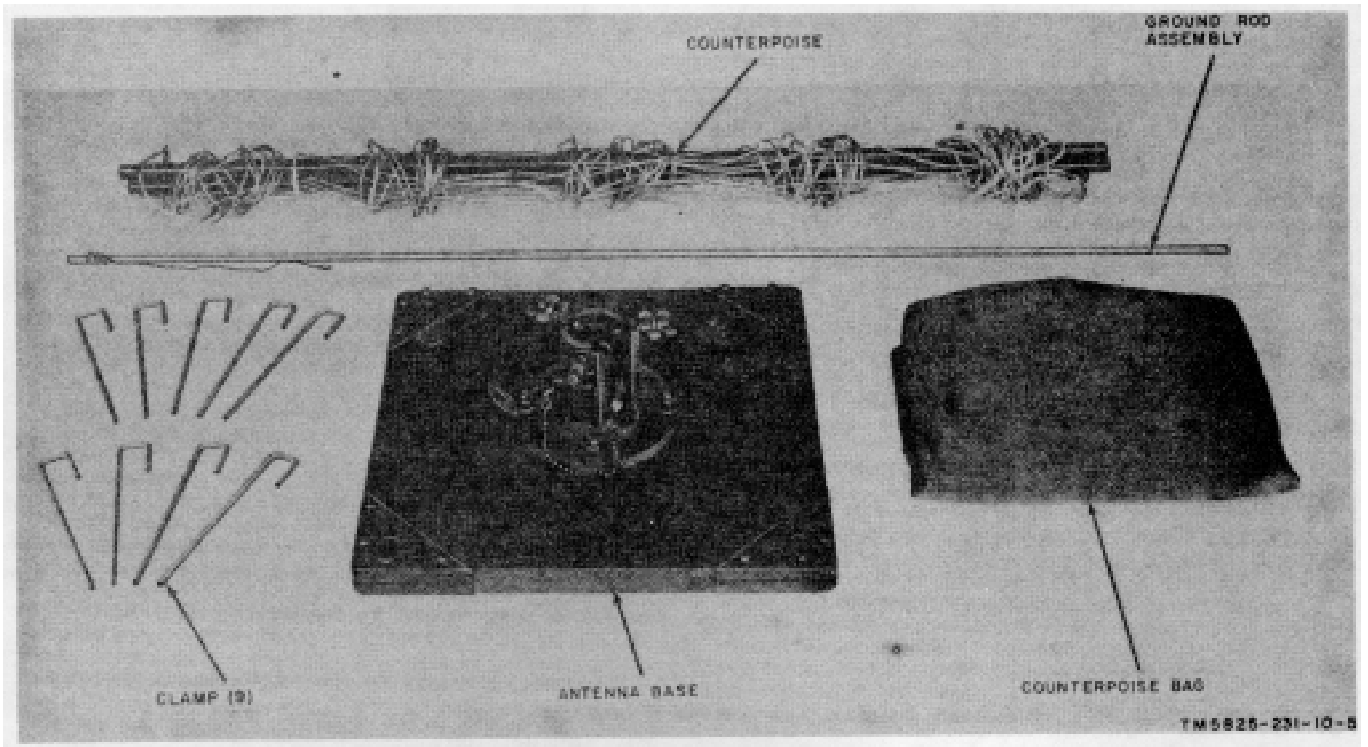

Figure 1-5. Base, Antenna MT-865/GR and Counterpoise, Antenna MX-4487/G.
c. *Base, Antenna MT-865/GR* (fig 1-5) The antenna base is a 2-foot square wooden platform with a socket for the mast ball. A cutaway portion of the socket allows the mast to be lowered to a horizontal position. Also, three screws on the socket are used to adjust the mast vertically. Two pins are provided, one to lock the ball in the socket, and the other to keep the mast vertical. There are four holes in the platform through which oval-head steel stakes are driven to anchor the base to the ground One guy plate for attaching the adjacent antenna guy is secured to the base.
*e. Counterpoise, Antenna MX-4487/G* (fig. 1-5) The counterpoise assures uniform ground conductivity for all 25 antennas of the df antenna and the monitor antenna. The system is composed of 26 individual sections, one for each antenna of the system. Each counterpoise is approximately 10 feet square when unfolded and consists of nine sections of mesh made of 12-gage, stranded, tinned copper wire. Each counterpoise has two wooden rods at either end, or four in all. The nine sections are joined to one another to the ground by metal clamps which fit over the wooden rods. The counterpoise is electrically grounded by driving the ground rod into the ground next to the braided strap connection on the counterpoise. Connect the counterpoise to the ground rod wire with the screw on the braided strap connector.